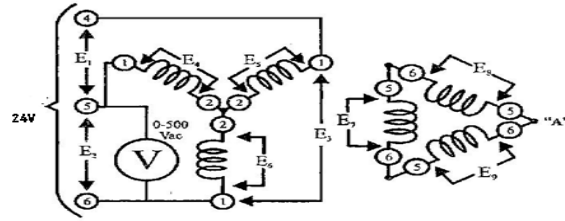

Figure 3.5. Wye-Delta (Y-Δ)
- a) The circuit shown in Figure 3.5 has three transformers connected in a wye delta configuration.